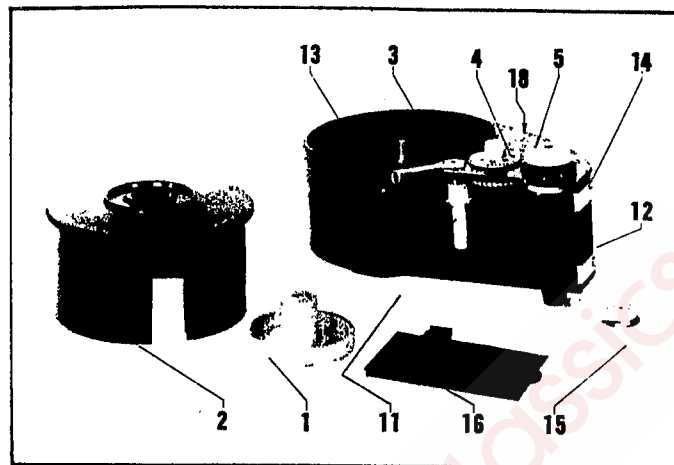

FIG. 1
Before loading a new bulk film roll, always set the roll dial (18) (fig 1) to the original roll length (100ft, 50ft etc) by turning the frame counter knob (4) **clockwise**, until the corresponding number appears in the dial's window.